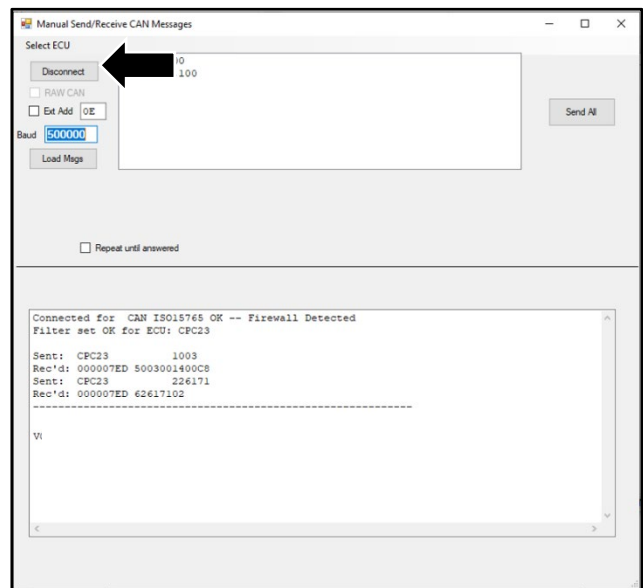

Figure 7
10. Click the "Disconnect" button (refer to Figure 7).